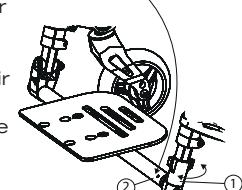

Fig. 4c
- The single Flip-up model (fig. 4c) can be opened and closed the following way
- Rotate the ring (1) to unlock and open the locking mechanism
- Lift (2) the foot plate to open